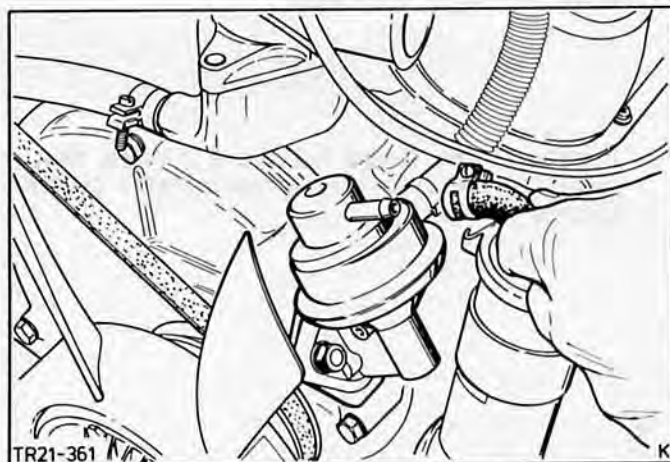

Fig.22. Attach fuel line.
28. Re-attach fuel line to fuel pump, Fig.22, and secure brake servo vacuum hose to the connector on the inlet manifold.